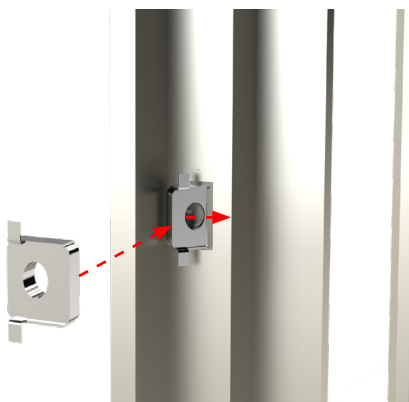

Figure 4
- Insert two cage nuts (Item 7) side-by-side into the top rear rail (Figure 4).
Insert the cage nut (Item 7), non-flange side away from the rail corners, at a 45° angle. Slide flush with the rail (Figure 4).